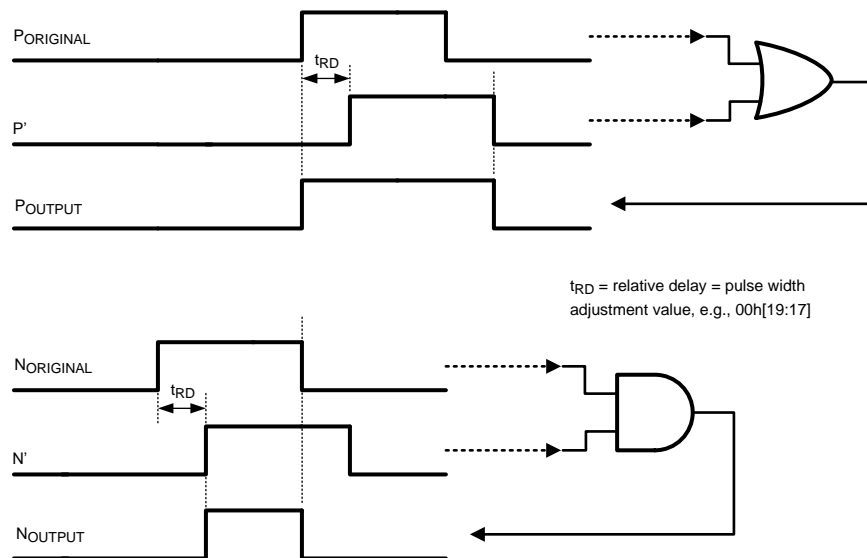

Figure 11. Pulse Width Adjustment (00h[21:20] = “01”)
Figure 11 illustrates the Pulse Width Adjust operation in further detail. In this example, 00h[21:20] = “01”. Internally both original P and original N have an alternative phase version that lags their original phase version. Alternative phase is set by the value in 00h[19:17]. The P output is the OR'd result of the original P with the internally delayed P', while the N output is the AND'd result of the original N with the internally delayed N'. The outcome is: (1) the N output is delayed, while the P output remains undelayed; (2) the P output pulse width has increased, while the N output pulse width has decreased.